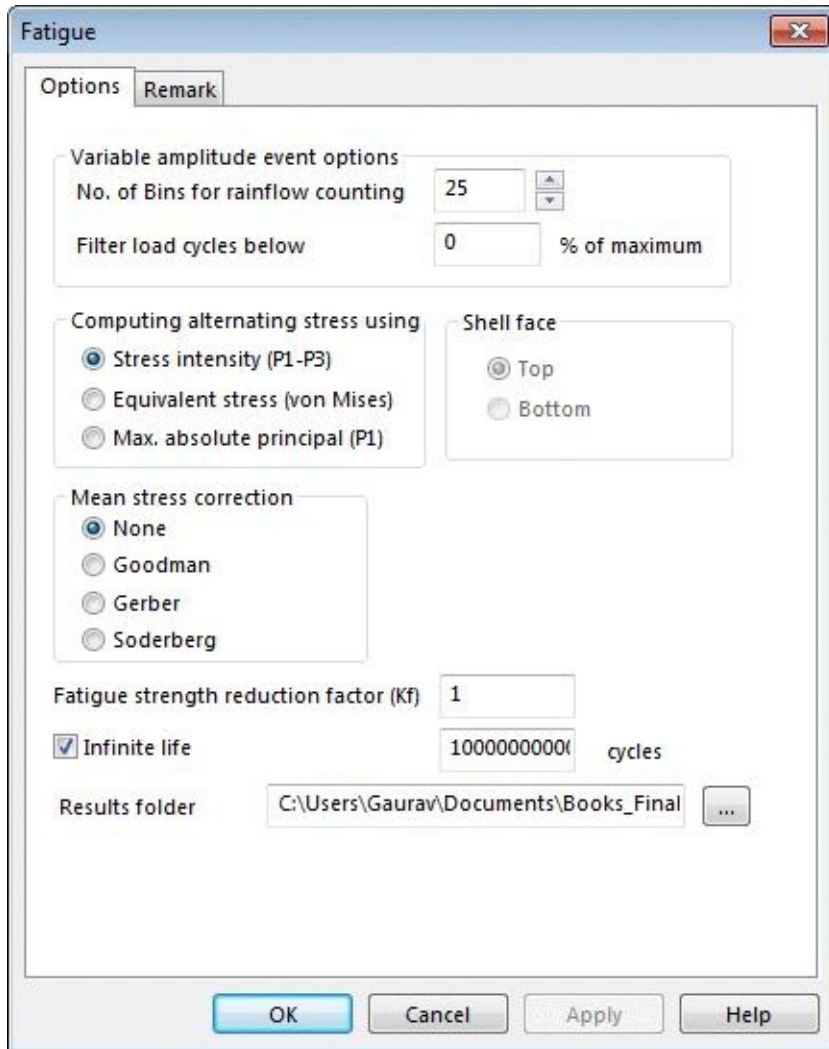

Figure-14. Fatigue dialog box
- Click on the **Properties** button from the list displayed. The **Fatigue** dialog box will be displayed; refer to Figure-14.